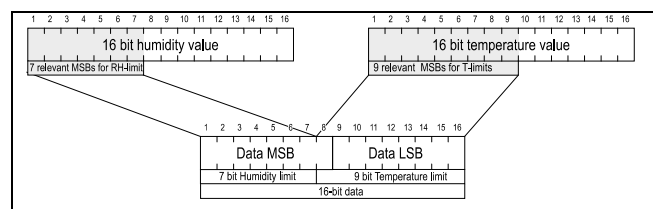

Figure 2 Relevant Bits for the limits
The sensor stores the limit information in a reduced data format. The standard data format of SHT3x-DIS has a width of 16 bits. For the limits only the most significant bits (MSB) are used to determine whether an alert has been met (7 bits for humidity and 9 bits for temperature), see Figure 2.
The reduced data format is shown in Figure 2.
- Combine the reduced values (step 3 and 4) according to **Figure 2**